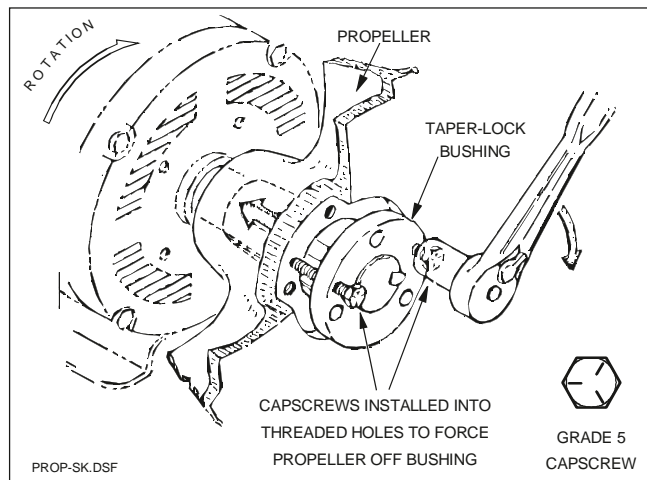

Fig. 2 - Capscrew arrangement for disassembly
2. Remove the three\* capscrews from the clearance holes in taper-lock bushing. Inspect for thread damage and set aside for later reinstallation (do not use these bolts for step 3, bushing removal). See Fig. 2.